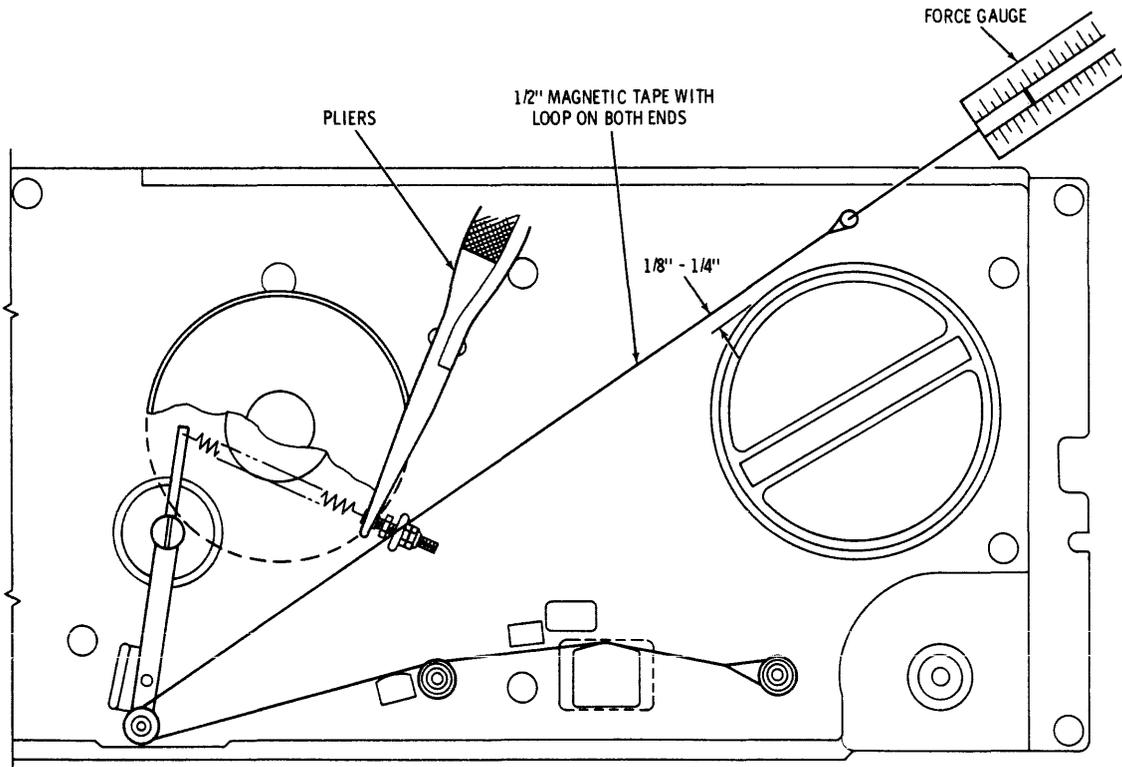

Figure 6-8. Tension Adjustment for Supply Reel
- (1) With crossbar in place, loosen supply guide roller set-screw 'D', located on the supply tension arm. See illustration at extreme right of Figure 6-8.
- (2) Center tape traction area of guide roller on crossbar when guide roller is positioned at the midpoint of its operating arc.
- (3) When height is established, tighten supply guide roller set-screw 'D'.
- (4) Remove crossbar from U-frame.
Tape tension is controlled by the spring attached to each of the tension arms. The tension is adjusted by means of the anchor screws. Figures 6-8 and 6-9 show the measurement and adjustment of the supply tape and take-up tape tension, respectively. A two-foot length of tape with loops at each end is used; after removing the overlay as described in Paragraph 6.6.12.1, Steps (1) and (2), tape is mounted as shown. A one-pound force gauge is used to measure tape tension. Care must be taken to zero the scale in the correct orientation and to pull on the tape in the direction shown. The anchor screw is adjusted until the tension is 7 ounces with the arm in the center of its operating region.